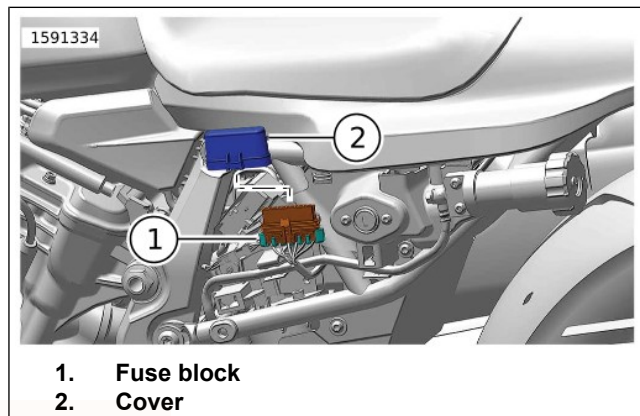

Figure 100. Fuse Block Location (RH1250S)
See Figure 100 or Figure 101. The fuse block is located under left side cover.
3. See Figure 100 or Figure 101. Remove cover from fuse block.
1. See Figure 100 or Figure 101. Install fuse block cover.